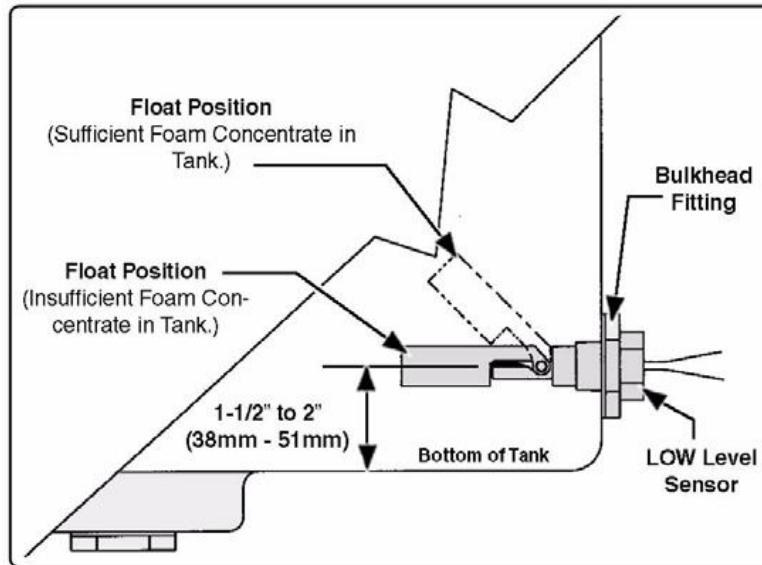

Figure 40: Side Mount Sensor Location Dimensions
1. The sensor has 1/2" (13mm) NPT threads. If tank design and construction allows, the side mount sensor is threaded directly into the side of the tank at the proper height (see Figure 40: **Side Mount Sensor Location Dimensions**). Also, the sensor can be mounted on the foam tank using a 1/2" x 1" (13x 25mm) NPT bushing and a bulkhead fitting with 1" (25mm) FNPT threads.